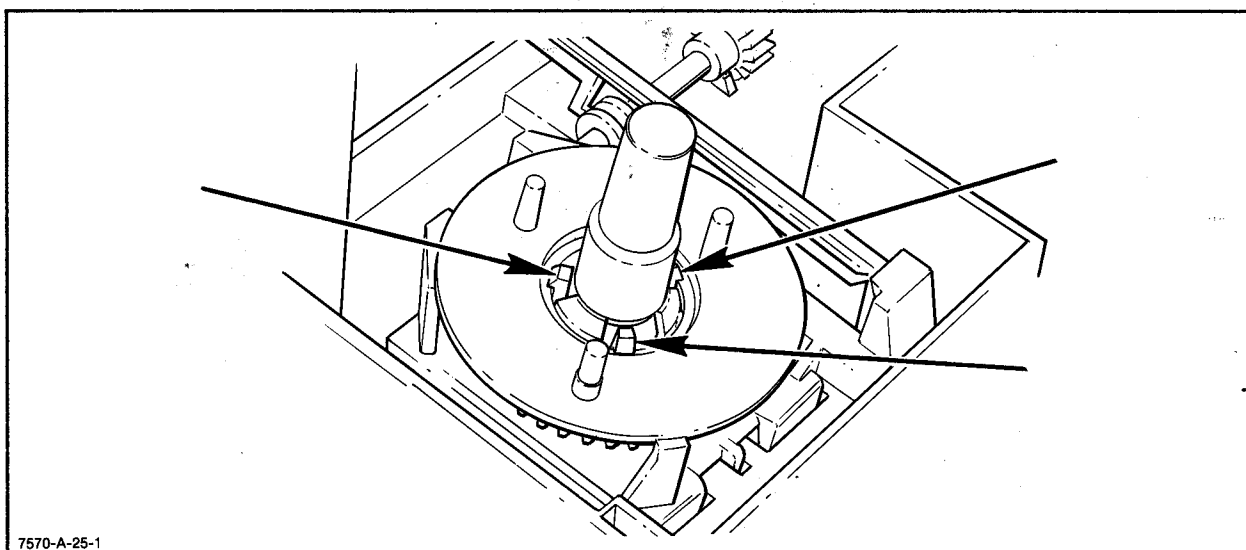

Figure 6-20. Carousel Turntable
- d. Using a common screwdriver, carefully press in on the tabs on the carousel mount and lift off the carousel turntable. See Figure 6-20.